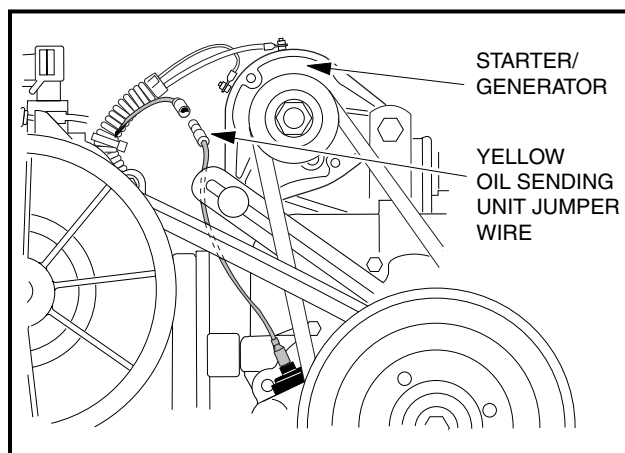

Figure 16-50 Oil Level Sensor Jumper Wire
24. Connect the oil level sensor wire (18-gauge yellow) to the jumper wire (**Figure 16-50, Page 16-20**).